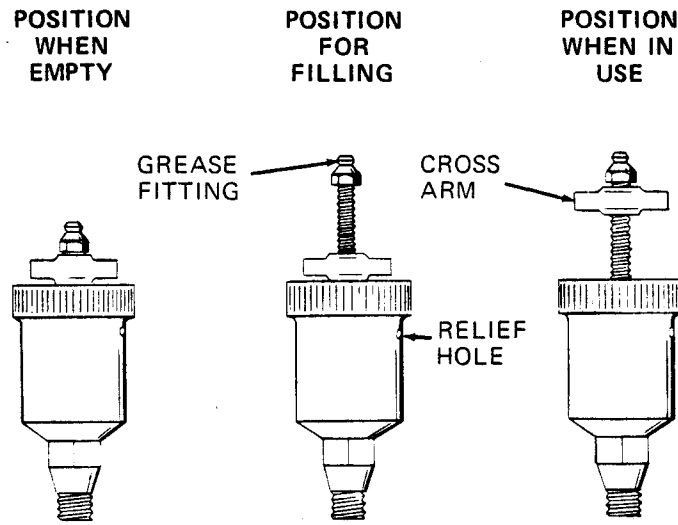

Figure 3. Automatic Lubricating Grease Cup
Before removing the seal assembly, turn the cross arm on the seal grease cup (32) clockwise until it rests against the cover (see figure 3). This will prevent the grease in the cup from escaping after the seal is removed.
Before starting the pump, fill the grease cup through the grease fitting with a good grade of No. 2 pressure gun grease until grease escapes from the relief hole. Turn the grease cup arm counterclockwise until it is at the top of the stem; this will release the spring to apply grease to the seal (see figure 3).